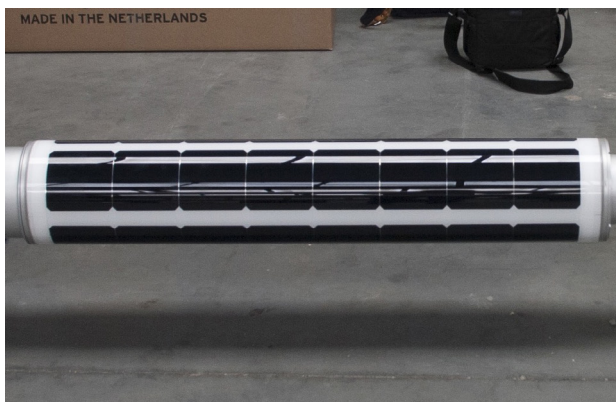

Fig. 8-10: Solar Module between Adapter Rings
10. Ensure the solar module is fully seated between the bottom and middle adapter rings (refer to Figure 8-10).
8. Lower the solar module until it rests on the previously installed adapter rings. Ensure that the solar module rests securely between both rings (refer to Figure 8-10).